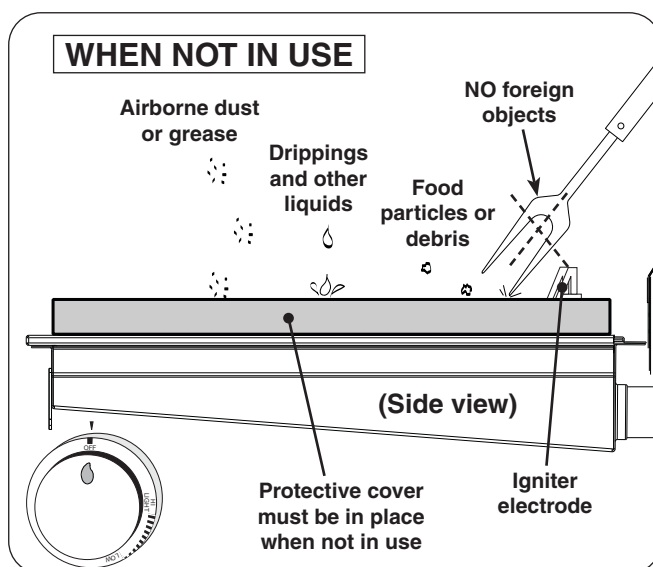

Fig. 26-2 Infrared burner - WHEN NOT IN USE
- When not in use, **always** cover the infrared burner with the stainless-steel cover. This protects the burner from drippings (from other cooking), water, airborne particles, and foreign objects (Fig. 26-2).
- Do not strike or scrape the ceramic portion of the burner as it may chip, crack, or break (Fig. 26-2).